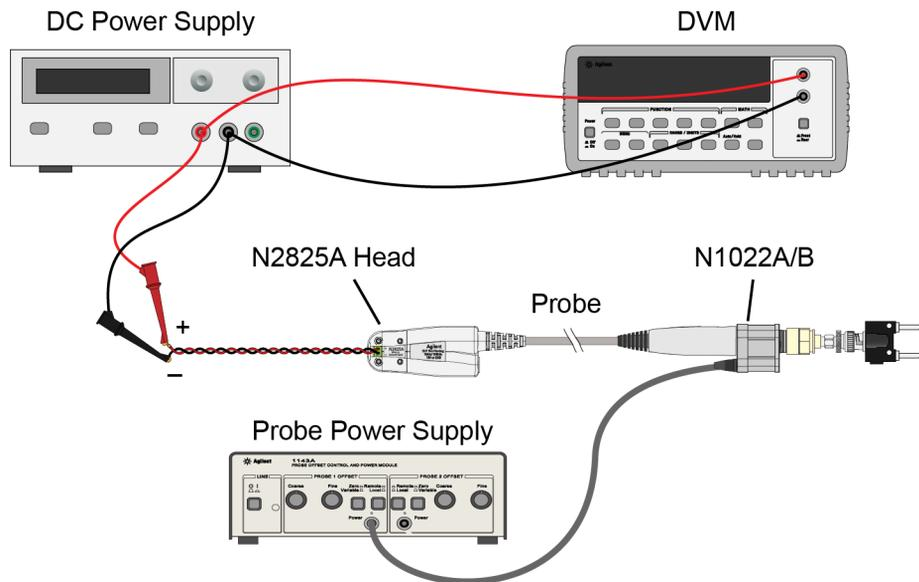

Figure 51 Test Setup for Measuring  $V_{in}$
- 1 Snap an N2825A head onto the N2820/1A probe and connect the test equipment as shown in Figure 51. Be sure to connect the positive side of the DC supply to the red lead on the N2825A head.
- 8 Connect the multimeter on the DC power supply as shown in Figure 51 on page 103.